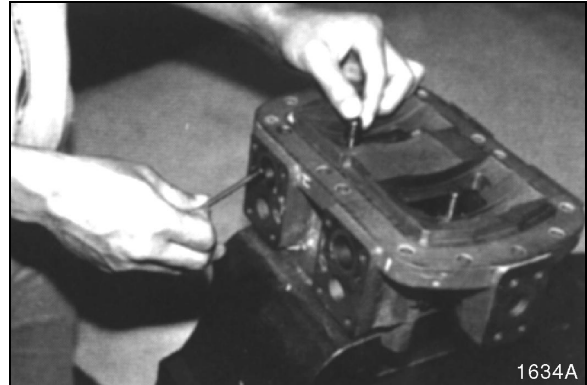

Figure 41
13. Remove first stop screw. See Figure 41.